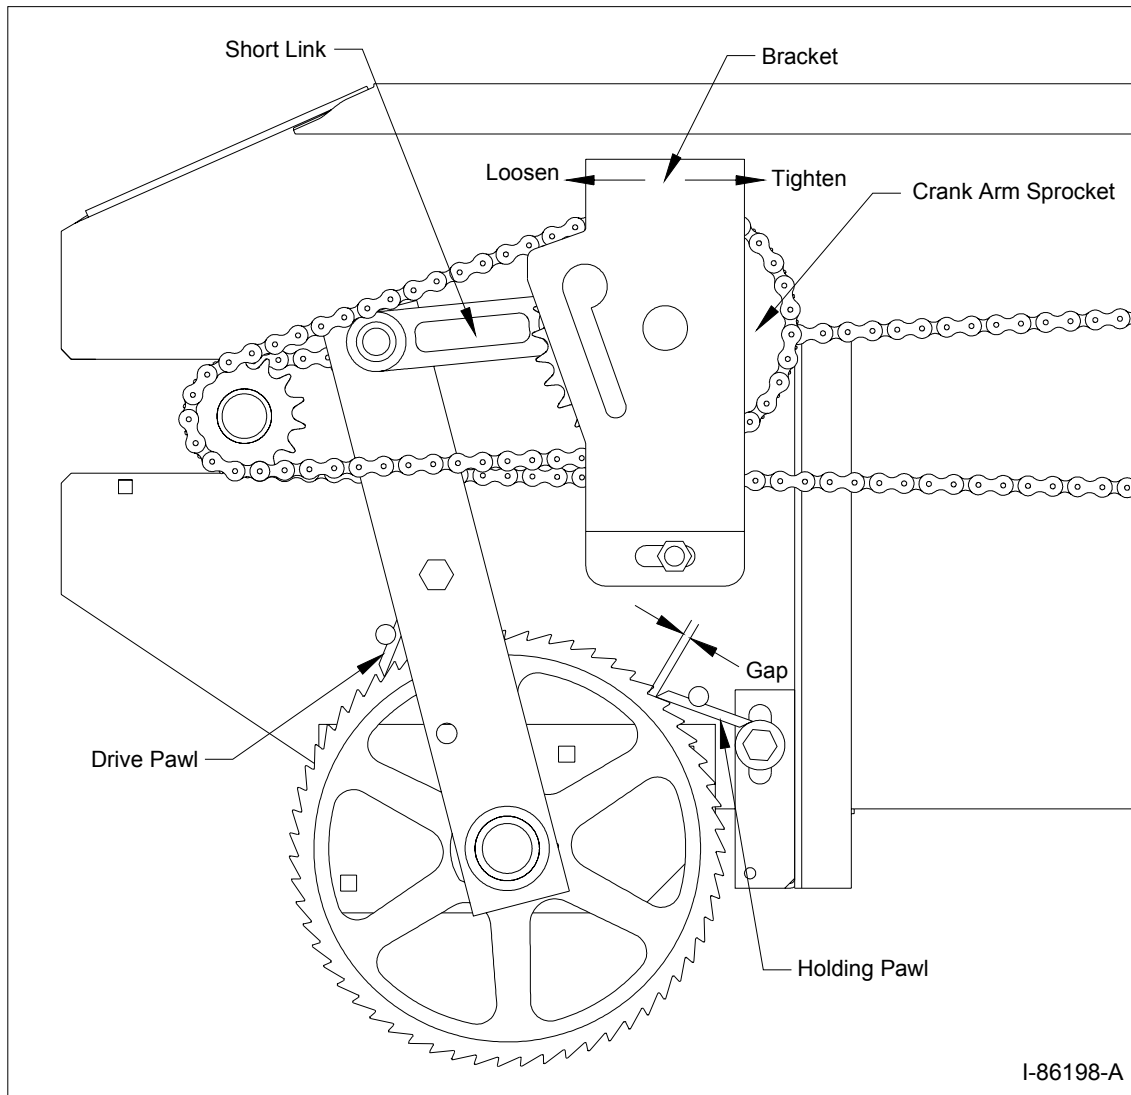

Figure 4B - Adjusting the Holding Pawl and Ratchet Drive Chain
- Apply chain lube once a month (or as needed) to the drive chains (shown in Figure 4B); use vegetable oil or a common spray lube for chains.
To Reset the Holding Pawl (refer to Figure 4B):
- (c) Adjust the holding pawl to obtain a $1/8$ " gap between the end of the pawl and bottom of the notch as shown in Figure 4B. Tighten the nut to secure the holding pawl.
Refer to Figure 4B on the previous page for an illustration of the ratchet drive chain and related components. The chain should be snug, but not too tight. If the chain is too tight, it may cause excessive wear on the bushings in the crank arm sprocket (resulting in premature failure).
- **To adjust the ratchet drive chain (refer to Figure 4B):** adjust the **bracket position** by loosening the two (2) 1/2" bracket bolts and sliding the bracket forward or backward (to tighten or loosen) as shown. Following adjustment of the bracket position, verify that the drive chain is set to the proper tension as specified above.